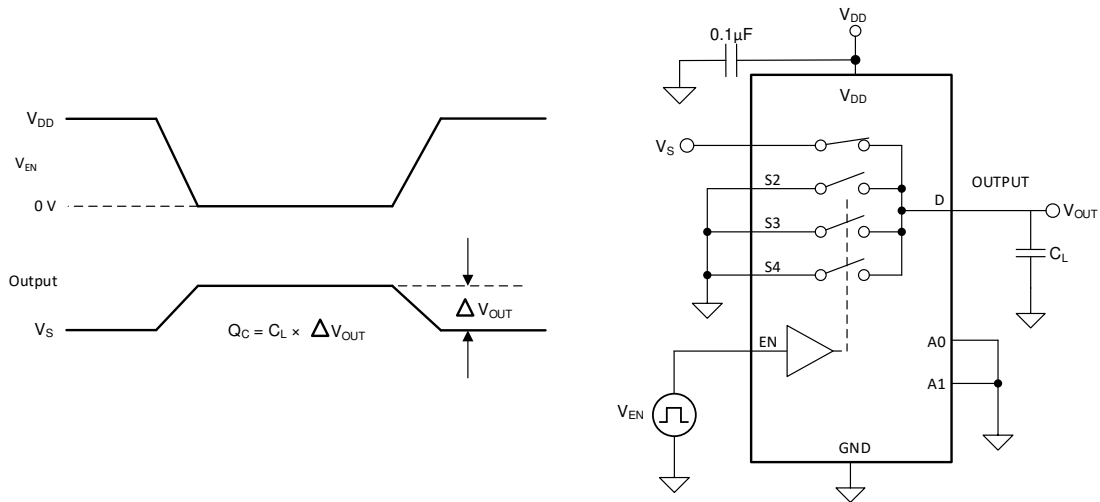

图 13. Charge-Injection Measurement Setup
The TMUX1204 has a transmission-gate topology. Any mismatch in capacitance between the NMOS and PMOS transistors results in a charge injected into the drain or source during the falling or rising edge of the gate signal. The amount of charge injected into the source or drain of the device is known as charge injection, and is denoted by the symbol Q_C . 图 13 shows the setup used to measure charge injection from source (S_x) to drain (D).